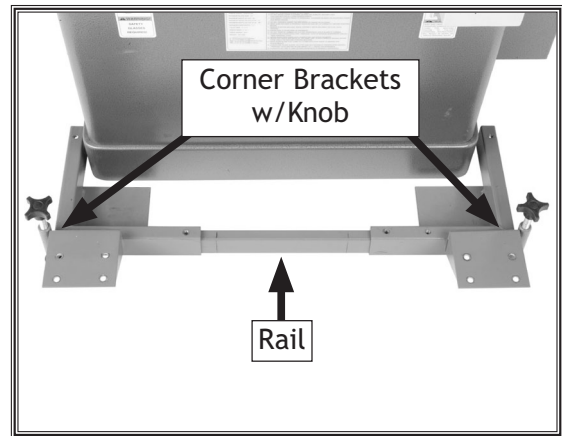

Figure 13. Rail inserted between corner brackets with knobs and feet.
4. Slide a side rail inside each of the two corner brackets with the foot posts, then slide the assembly up against the side of the machine that will be the front when pushed (**Figure 13**).